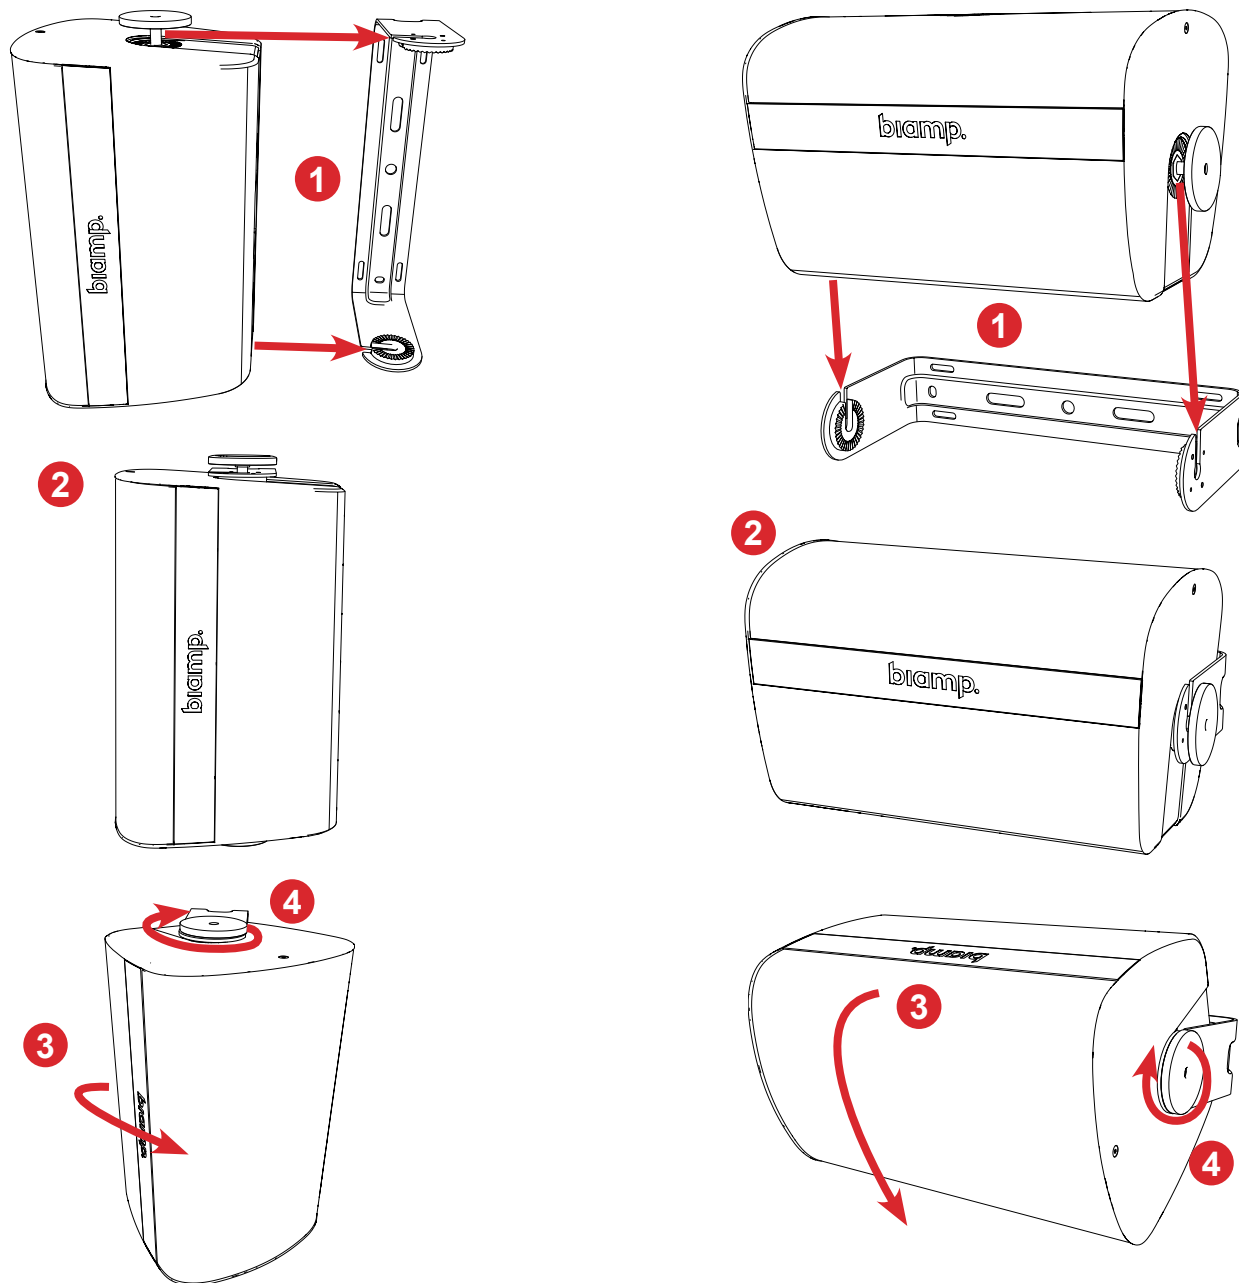

Figure 10. Mount the loudspeaker on the U-Bracket, rotate and secure angle
4. The loudspeaker must be mounted in a specific way to allow the ClickMount teeth on the U-Bracket to guide the speaker perfectly into place using the shallow channels on each end of the speaker. (Figure 10). The grille must face directly away from the slots in the bracket - See below (1) for both loudspeaker mounting positions. Partially screw the knobs on the loudspeaker (leaving 16mm [0.63"]) and fully fit the loudspeaker in the bracket slots.
5. Tighten the knobs loosely by hand (2) so that teeth in the yoke ends engage with the loudspeaker teeth, but still allow the EX to rotate (with clicks).
6. Set aiming angle (3) and tighten the knobs by hand (4) to prevent any movement. Once angle is final, fully tighten knobs by using a 5.5mm (7/32") hex wrench. The loudspeaker will rotate 200° on the bracket in 10° increments.